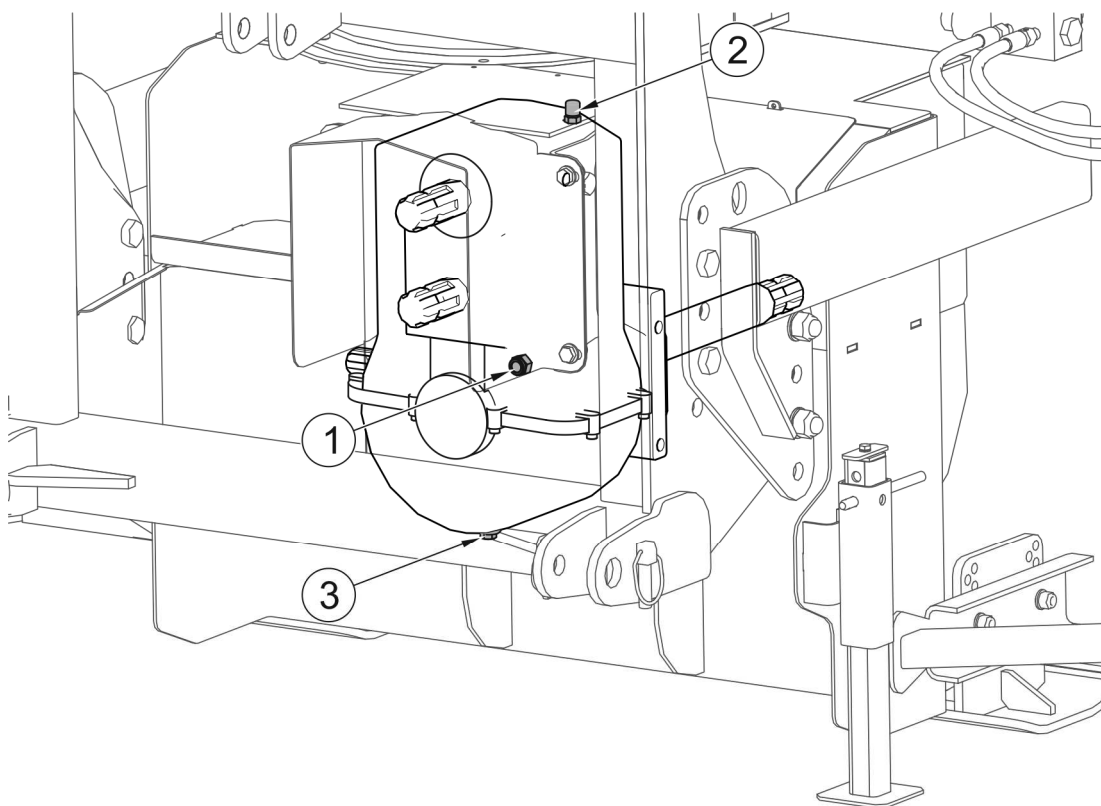

FIG. 5.1 **Checking and change of oil in main transmission**
In the new machine, main transmission (FIG. 5.1) is pre-filled with gear oil of 80W/90 API GL-4 class. Transmission gear maintenance involves periodical checking of oil level and changing oil. To check the oil level in main transmission:
- unscrew inspection plug (1) (FIG. 5.1),
- oil level should reach the lower edge of the plug opening (1),
- if necessary, add oil through the filler plug (2)
It is best to change oil immediately after completing work when transmission gear is still hot and impurities are suspended in oil. Before changing oil in the intersecting axis gear (FIG. 5.1):